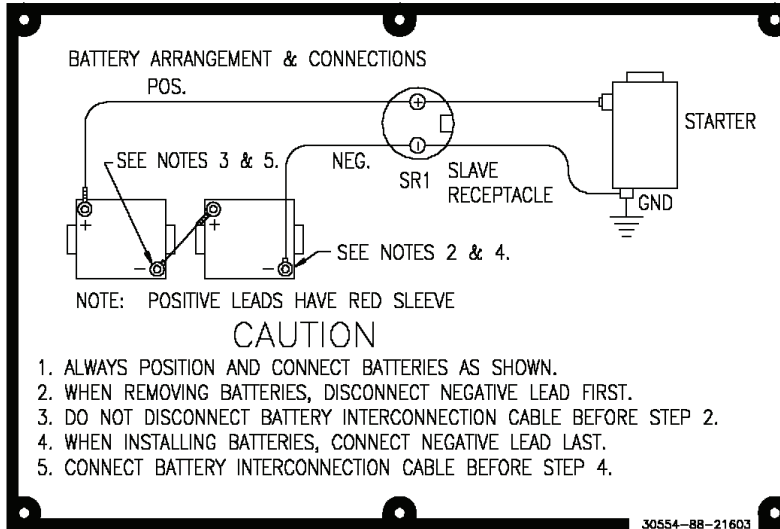

Figure 1 BATTERY CONNECTION INSTRUCTION PLATE
1. Disconnect the batteries in accordance with BATTERY CONNECTION INSTRUCTION PLATE, figure 1, located in the battery compartment.